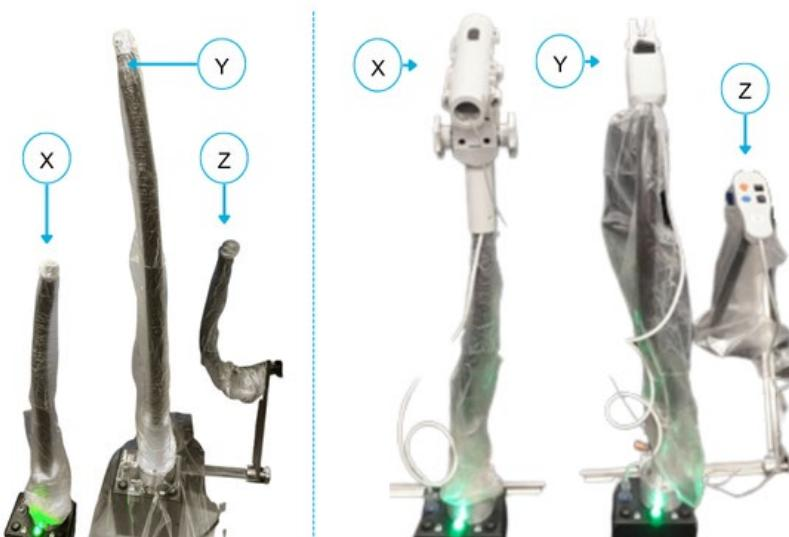

Figure 10-22: Covered Stabilizer Arms with and without Components Attached
23. Tighten the Controller Arm Knob (W) until secure.
24. Cover the TRUS Stabilizer Arm (X), Delivery Device Stabilizer Arm (Y), and Controller Arm (Z) with a sterile sheath prior to attaching sterile components (**Figure 10-22**).